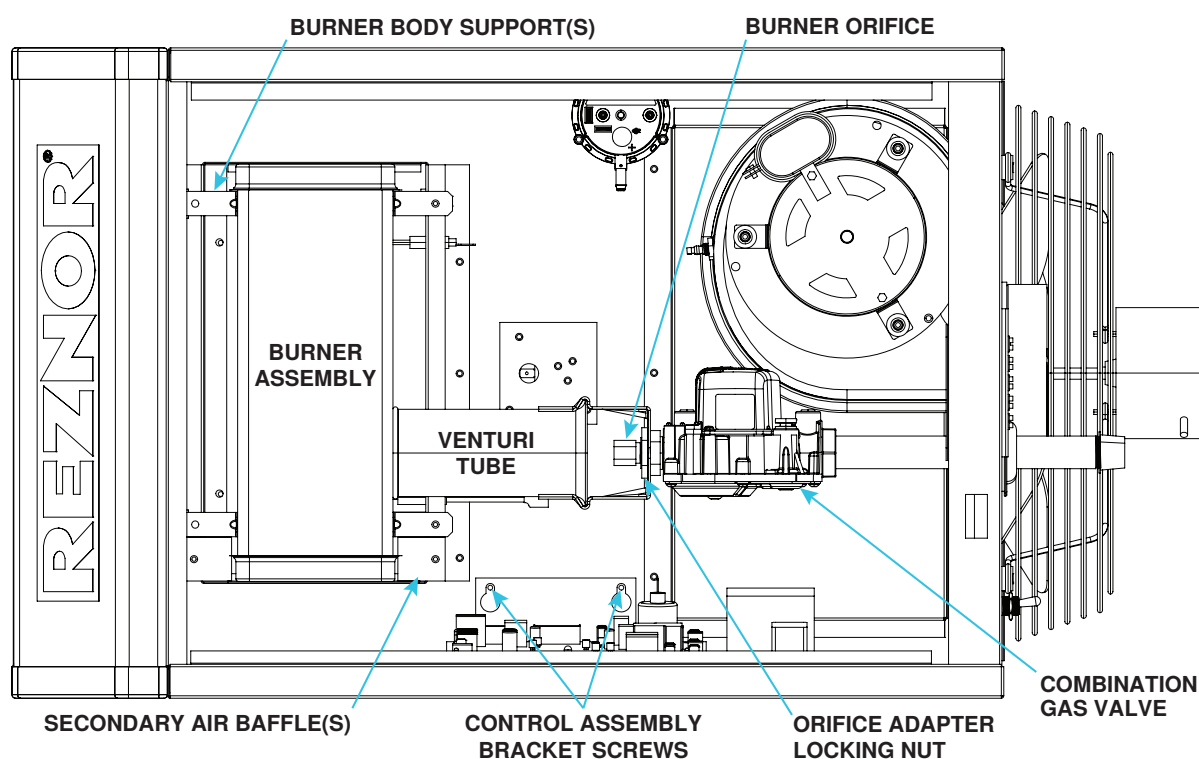

Figure 23. Burner Compartment (Typical)
Visually inspect the burner compartment (see Figure 23). If there is an accumulation of dirt, dust, and/or lint, clean the compartment and remove and clean the burner as follows:
2. Remove burner assembly (see **Figure 23**):
5. Re-install burner assembly (see Figure 23):